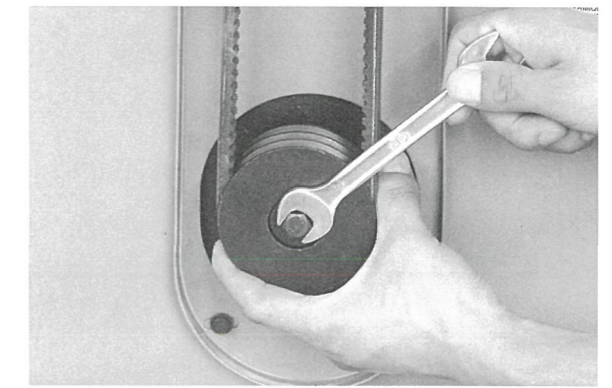

Fig. 7
1. Assemble the motor pulley to the motor shaft with the key and tighten the screw in the motor shaft, as shown in Fig.7.